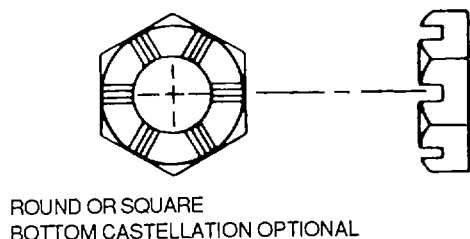

Figure 2-23. Shear Castle Nut
(2) *Shear.* Use AN320 airframe castellated shear nuts, as shown in figure 2-23, for those devices, such as drilled clevis bolts and threaded taper pins, that are subjected to shear loads only.